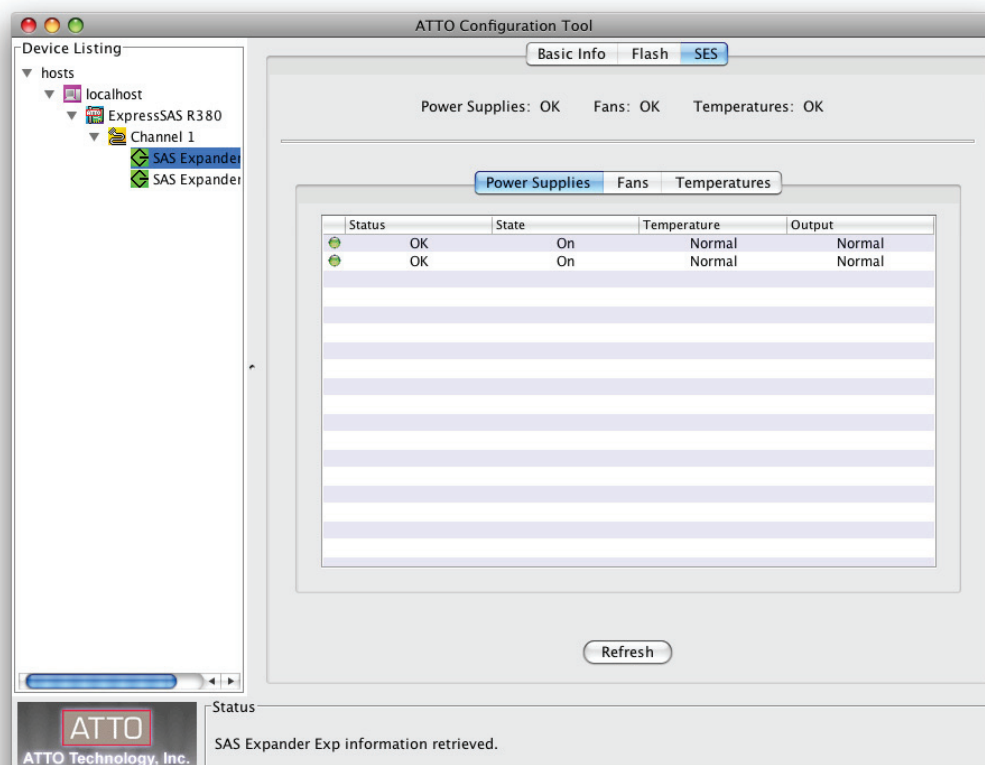

Figure 20
3. View the overall status of each component across the top of the right panel. See **Figure 20** on page 22.